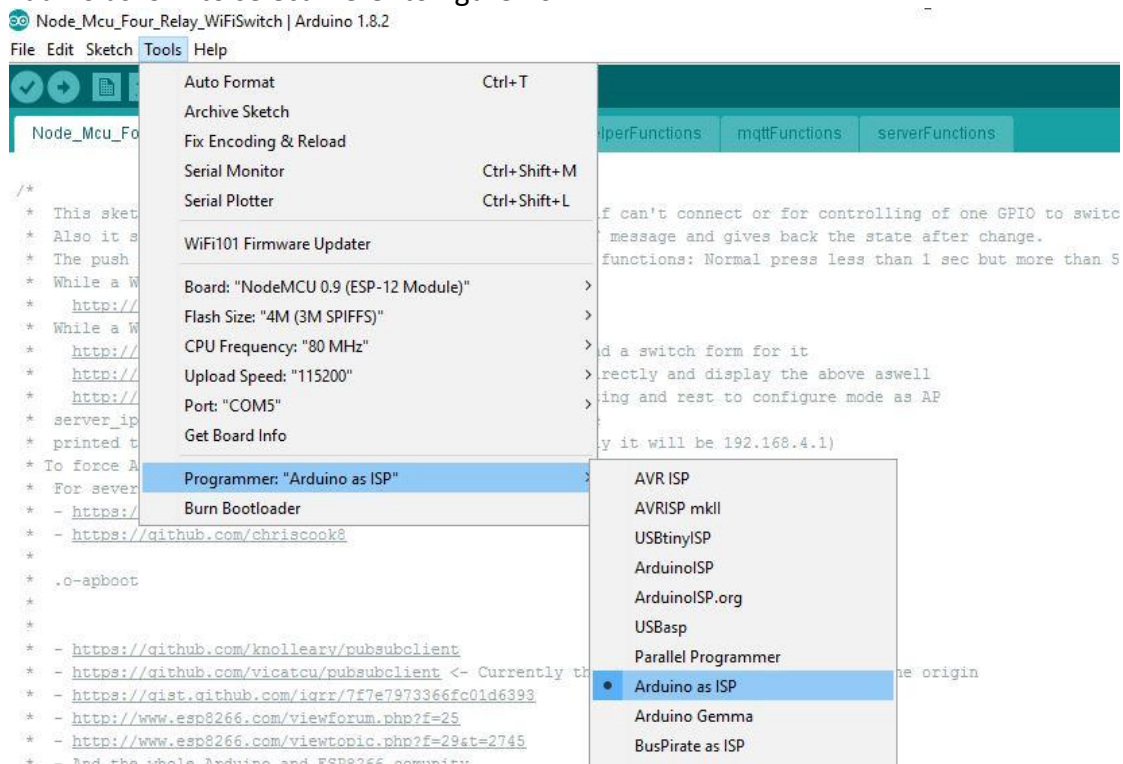

Figure 13: IDE Selection
7. Click on tools tab, move mouse pointer to “Programmer: “Arduino as ISP””, under this click on “Arduino as ISP”, as shown in figure 13.